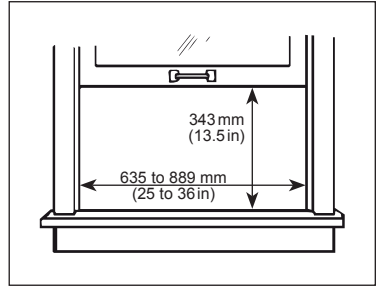

FIGURE 2
- If you have to install the air conditioner in a narrow window, you may not need to install the flexible screens. Please refer to Figure 2 for window size requirements.